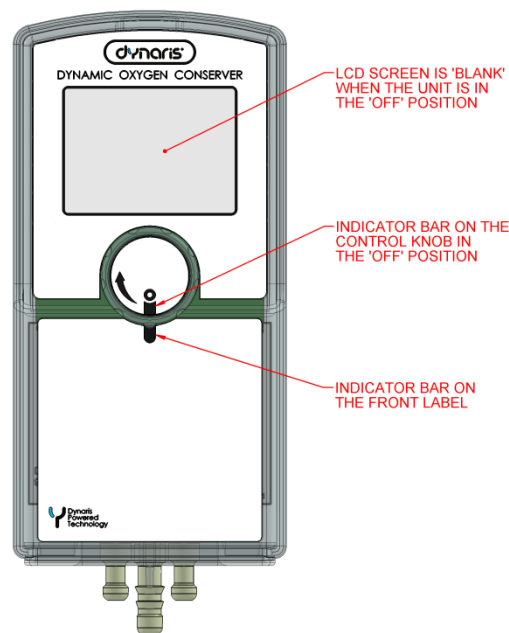

Figure 6: Apogee device in the 'OFF' Position
Once the cannula is properly placed and the regulator tubing are properly attached to the device, turn the device “ON” by rotating the knob (clockwise) from the “OFF” position (see Figure 6) to the selected regulated flow on the front of the device. Check the display to verify battery level, L or R nasal activation ICONs. If user sees no activation on either nasal passage notify your health care provider or contact Dynaris for assistance.
- Ensure the Apogee device is off (see Figure 6).